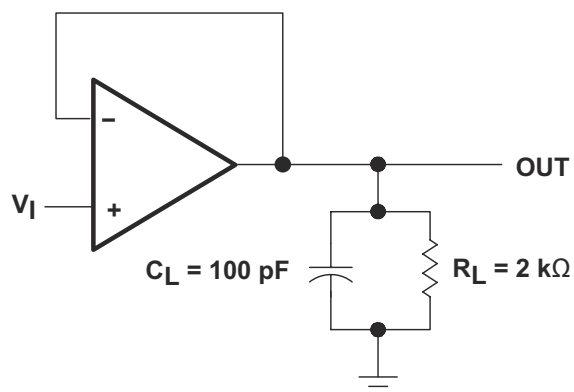

图 7-1. Unity-Gain Amplifier
| SR        | Slew rate at unity gain (1) | $V_I = 10\text{ V}$ , $R_L = 10\text{ k}\Omega$ , | $C_L = 100\text{ pF}$ , see <a href="#">Fig 7-1</a> | 1.5 | 3.5 |     | V/ $\mu\text{ s}$       |
| $t_r$     | Rise-time                              | $V_I = 20\text{ V}$ , $R_L = 10\text{ k}\Omega$ , | $C_L = 100\text{ pF}$ , see <a href="#">Fig 7-1</a> |     | 0.2 |     | $\mu\text{ s}$          |